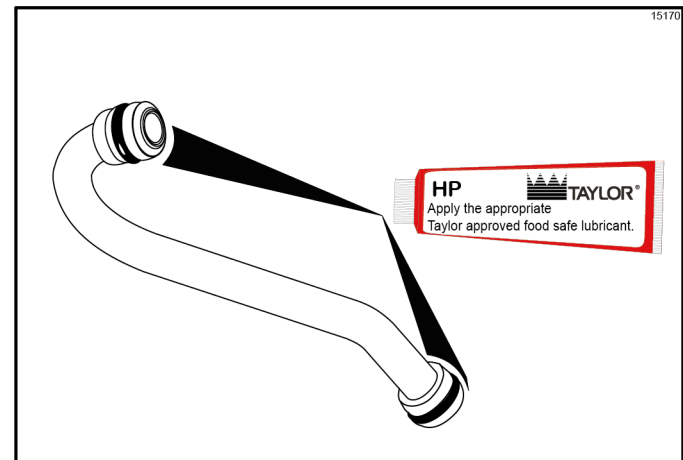

Figure 6-27
- Install one O-ring on each end of the mix feed tube and thoroughly lubricate. (See Figure 6-27.)